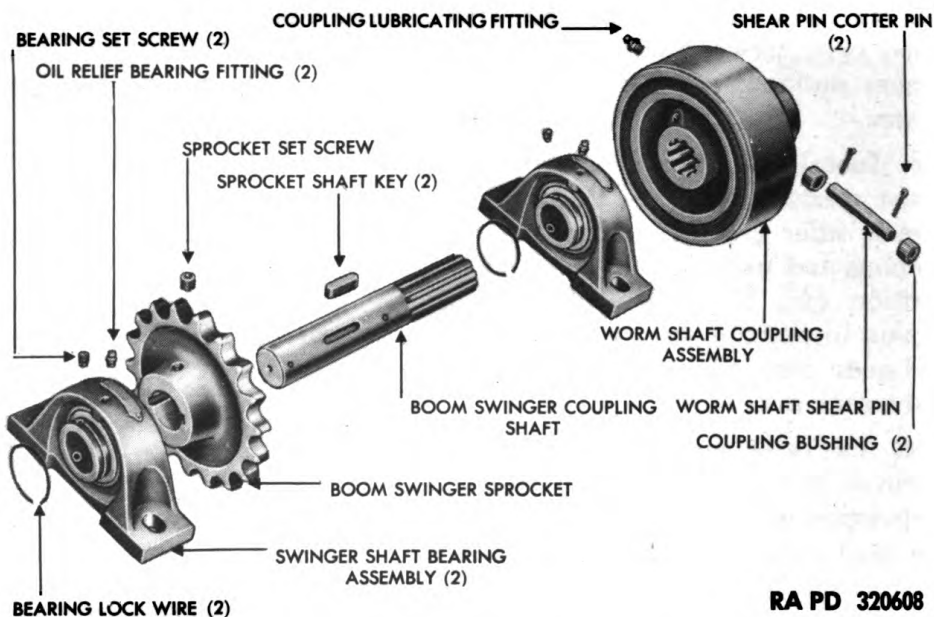
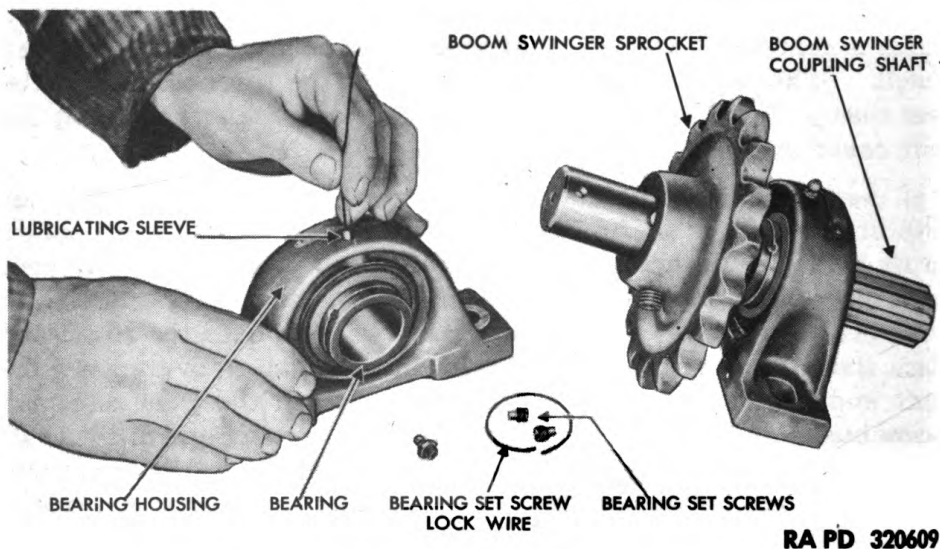
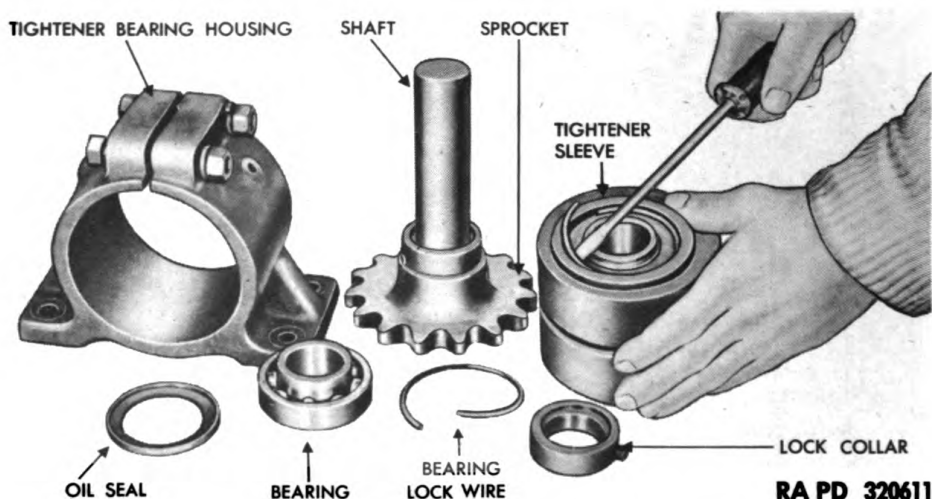

Figure 47 — Boom Swinger Drive — Disassembled
Figure 48 — Removing Bearing Lubrication Sleeve
Figure 50 — Removing Bearing Lock Wire
a. Disassemble. Remove the bearing set screw lock wires on the bearing inner race, and remove set screw and slide bearing assemblies off the swinger coupling shaft. Remove the socket head set screw in the sprocket hub, press the sprocket off the shaft, and lift out sprocket keys (fig. 47). Remove the bearing lubrication fitting; reach into the lubrication fitting opening with a short piece of wire and lift out the small lubrication sleeve (fig. 48). Turn the bearings in their housing 90 degrees, and tap the bearing assemblies out through the grooves in one side of the bearing housing (fig. 22).
c. Assemble. Install the shaft keys and press the sprocket onto the keys and shaft until the keys are flush with the extended end of the sprocket hub. The hub extended end points away from the splined end of the shaft (fig. 47). Slide the bearing assemblies through the grooves in the sides of the bearing housing, and turn 90 degrees into their operating position (fig. 22). Set the bearing assemblies onto the shaft, and install the set screws in the inner race of the bearings with the holes in alignment in the shaft. Install the set screw lock wires, and install the sprocket set screw.
a. Disassemble. Loosen the set screw check nuts, and remove the set screws from the chain tightener housing. Slide the chain tightener assembly out of the housing. Remove the set screw from the rear chain tightener collar, rotate the collar slightly until it is free, and slide it off the shaft. Loosen the set screw in the sprocket end chain tightener collar, and rotate the collar until it is free on the shaft. Slide the shaft out of the chain tightener sleeve. Remove the snap rings from either side of the chain tightener sleeve, and tap out the bearings (fig. 50). Remove set screw from the sprocket hub, press the sprocket off the shaft, and lift out the sprocket key (fig. 47).